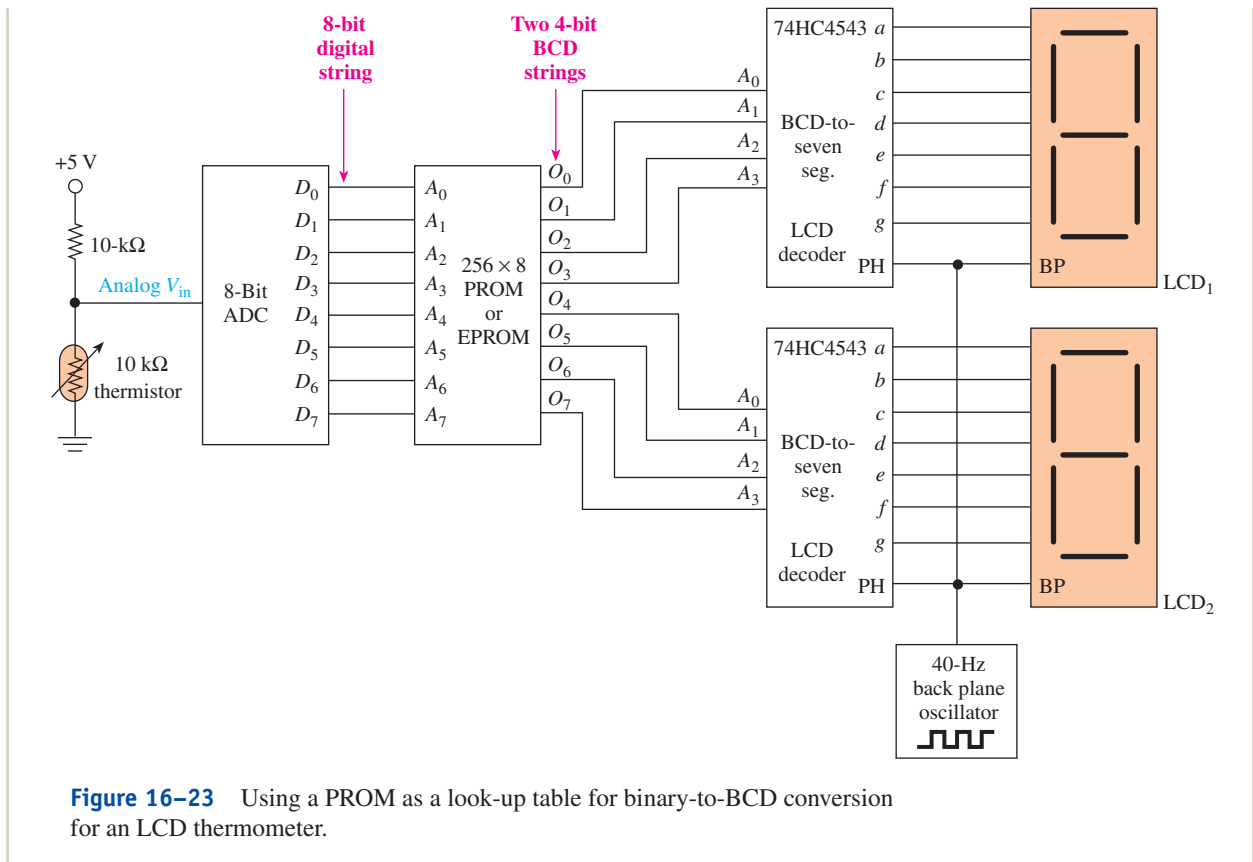

Figure 16–23 Using a PROM as a look-up table for binary-to-BCD conversion for an LCD thermometer.
The 74HC4543 will convert its BCD input into a seven-segment code for the liquid-crystal displays (LCDs). Liquid-crystal displays consume significantly less power than LED displays but require a separate square-wave oscillator to drive their backplane. As shown in Figure 16–23, a 40-Hz oscillator is connected to the phase input (PH) of each decoder and the backplane (BP) of each LCD.
16–22. Determine which EPROM and which EPROM address are accessed when the microprocessor of Figure 16–20 issues a Read command for the following hexadecimal addresses: